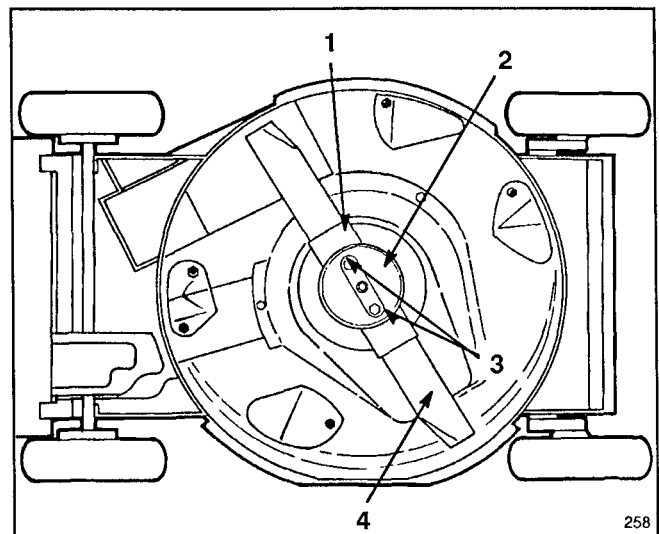

Figure 24
3. Tip mower on its left side (Fig. 24).
5. REMOVING BLADE—Grasp end of blade using a rag or thickly padded glove. Remove (2) blade nuts, anti-scalp cup, blade stiffener, and blade (Fig. 24).